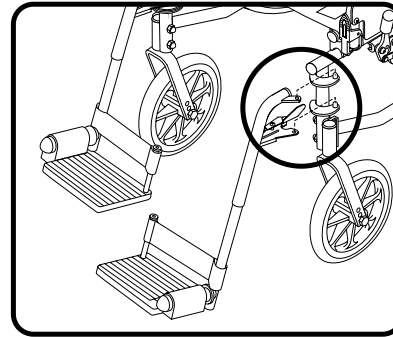

Figure 9. Foot Rigging Removal
5. Either remove the foot riggings or move them aside. See figure 9. You can also flip up the foot plates. This will help to prevent your feet from being caught on the foot riggings during the transfer. If you use the foot riggings to support yourself during transfer, you risk tipping your wheelchair.